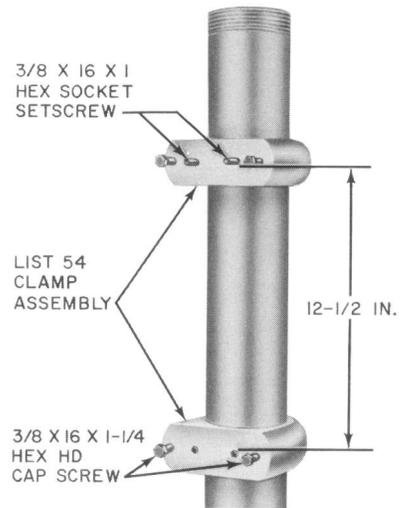

Fig. 8—List 54, Clamp Assembly
3.09 A list 53 cap (Fig. 8) or list 70 sign mast assembly should always be placed over the top of the mounting post. Signs for use with this mounting are covered in Section 508-810-205.